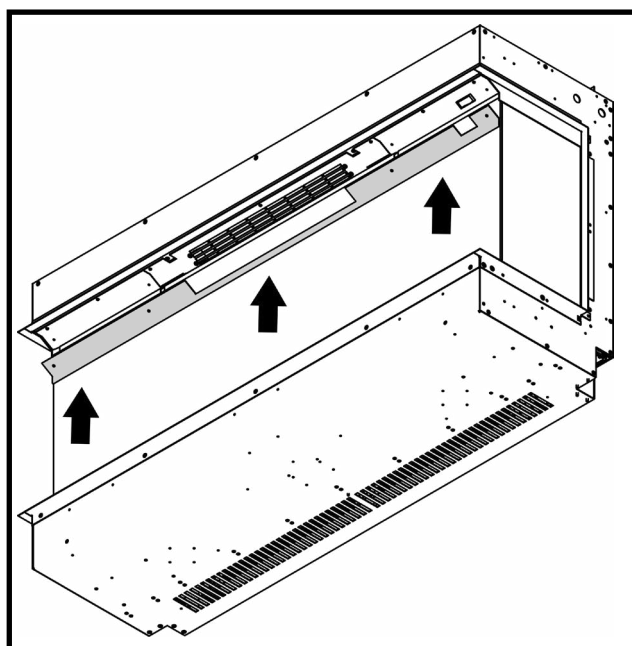

Fig 2.
2. Then replace the top glass retainer bar and screw into place (**Fig 2**).